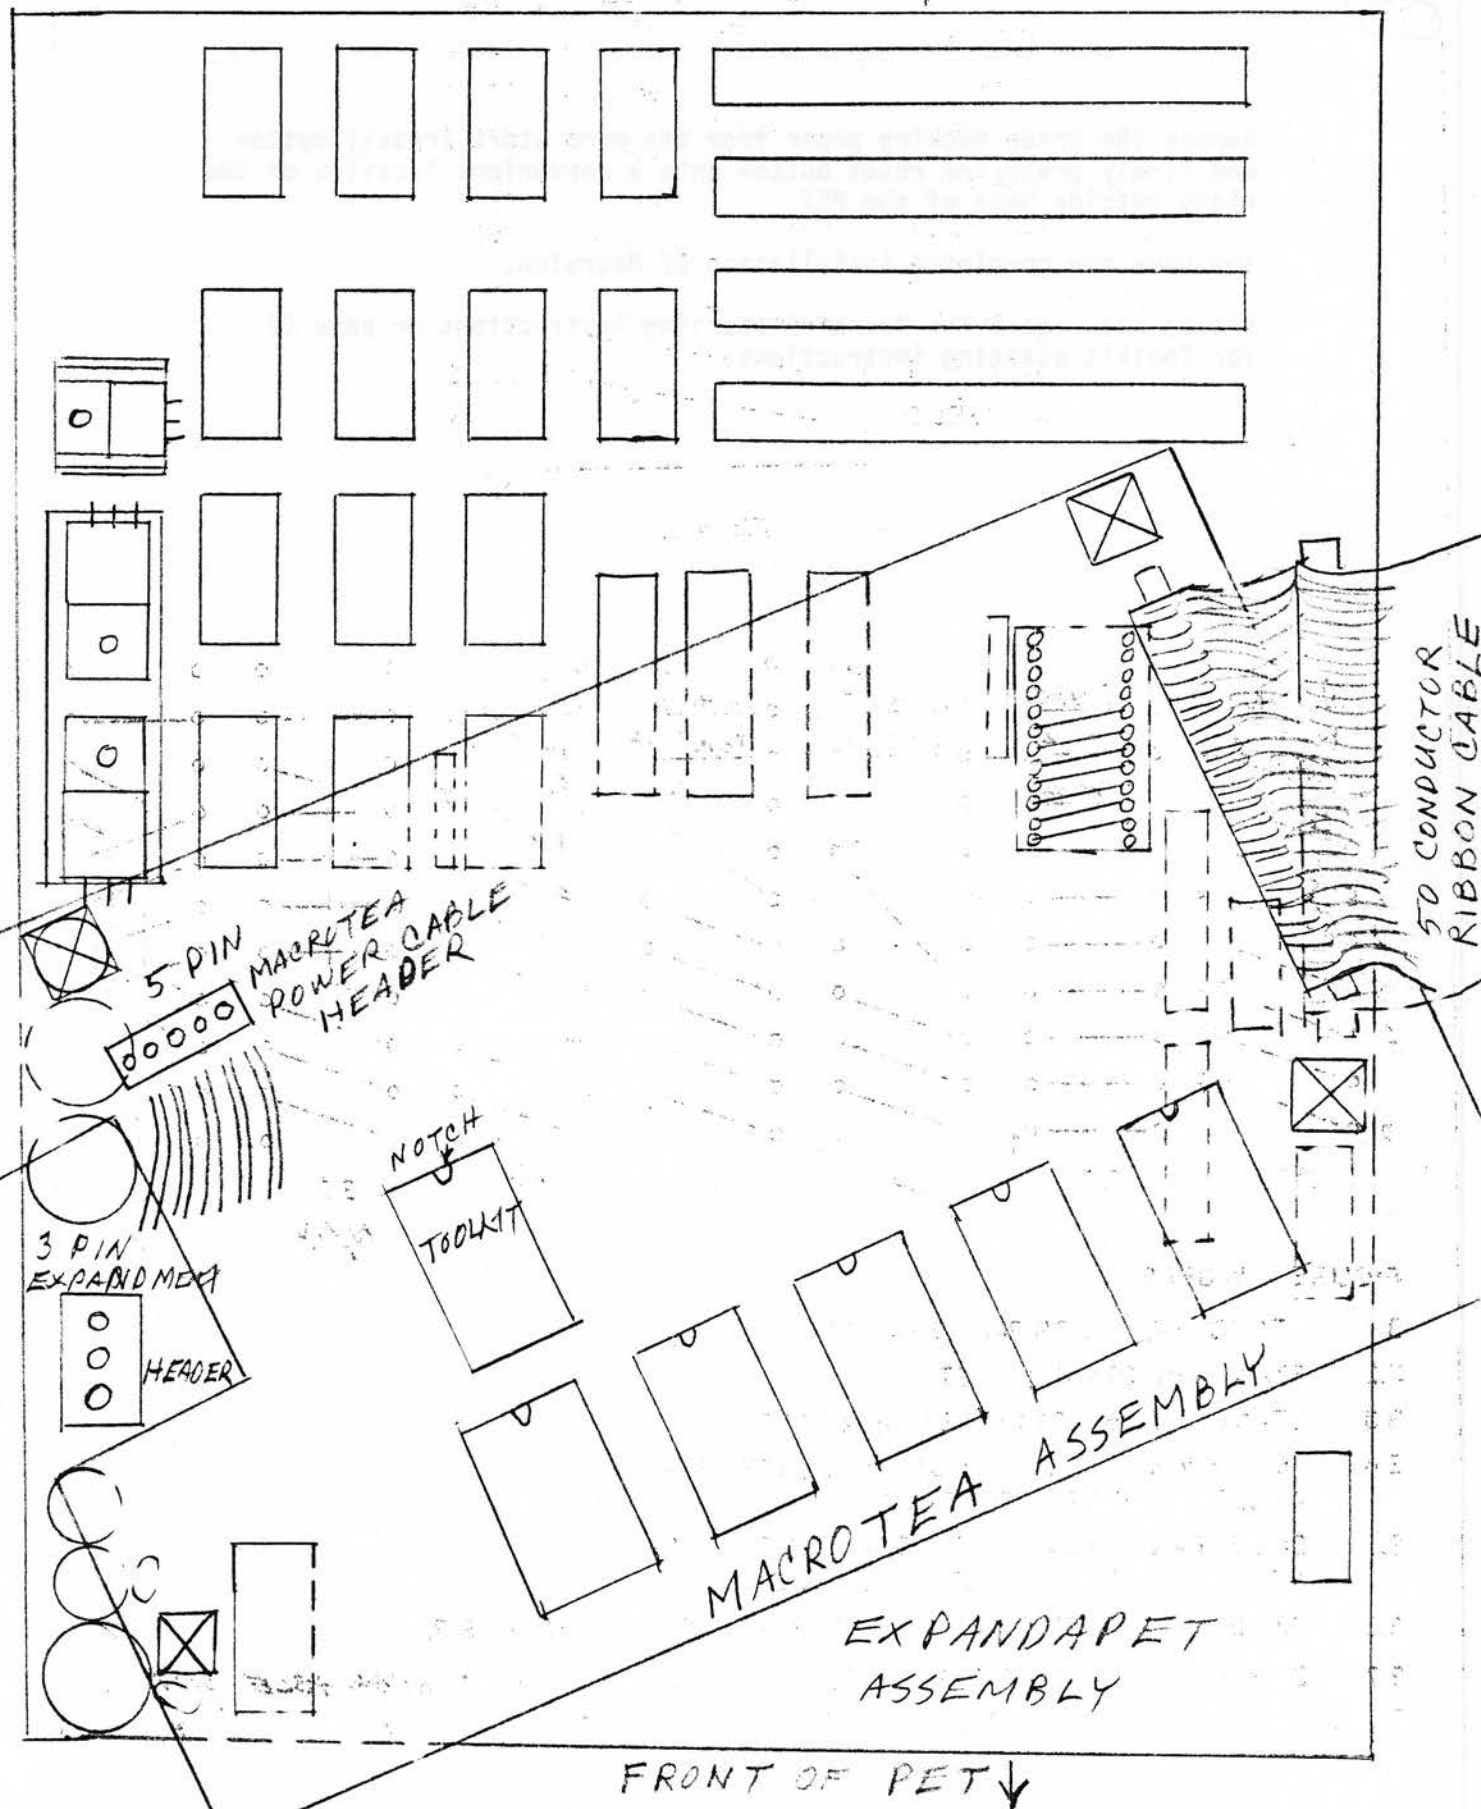

FIGURE 4
5. Holding the MacroTeA in one hand in approximately its final location (see figure 4), connect the 50 conductor MacroTeA ribbon cable connector to the ExpandaPet/Mem.
7. Place the MacroTeA on top of the ExpandaPet/Mem as shown in figure 4. Remove the green backing paper from the plastic standoffs and press firmly to attach MacroTeA to the ExpandaPet/Mem.